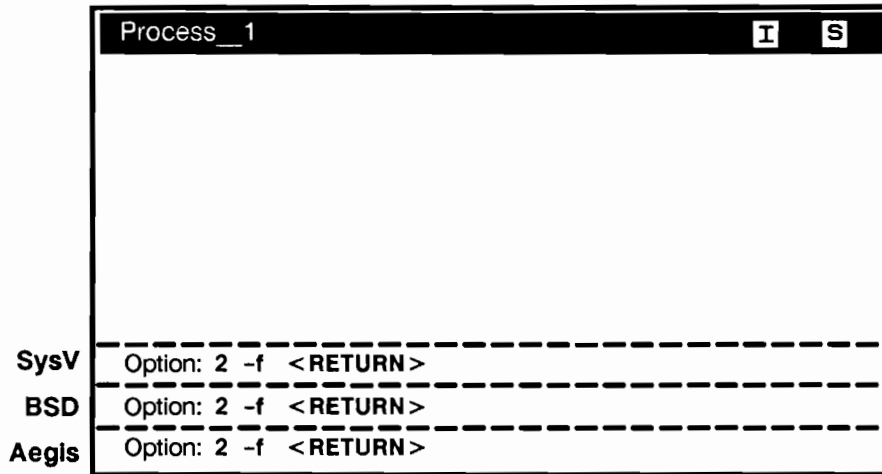

Figure 3-44. `invol` Prompt to Configure Logical Volumes in Set
10. The `invol` utility queries you for the option to perform. Enter the option as shown in Figure 3-44 to configure logical volumes on this multidisk set.